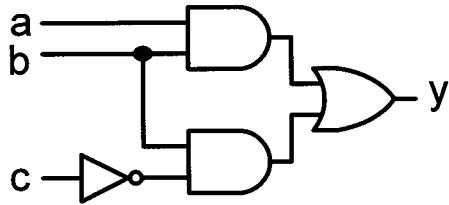

Figure 1
1) In the figure 1, find solution(s) of each question. (7 marks)